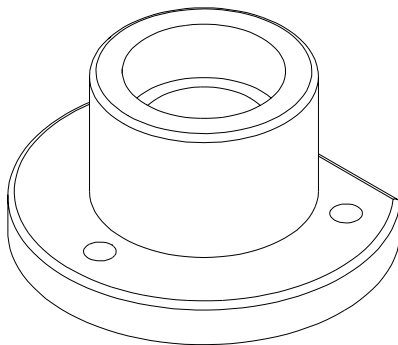

Figure 27-64 Model after creating the central hole fillet
9. Create the central hole to be subtracted from the cylinder of diameter 4 units and height 6 units. The model should now look similar to the one shown in Figure 27-64.